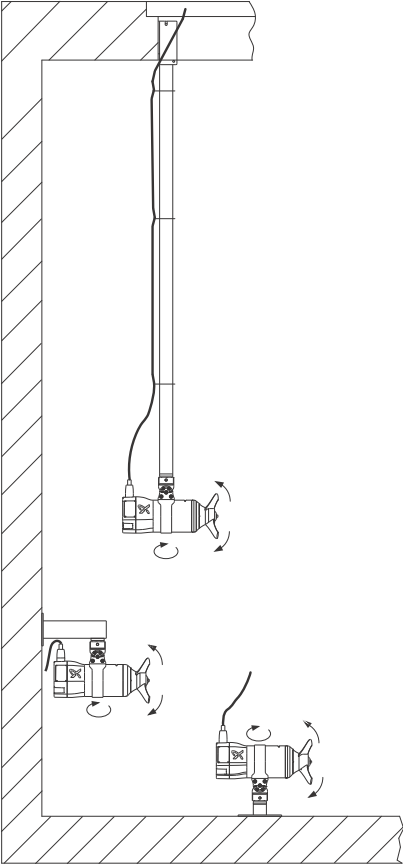

Fig. 5 SMD.09 - 18.xx.xxxx.T
- fixation bracket and tube for suspended mounting. See fig. 5
- fixation bracket for wall mounting. See fig. 5
- fixation base for floor mounting. See fig. 5